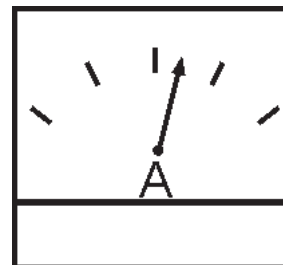

Figure 58. Ammeter (Load)
18. Observe the generator's ammeter (Figure 58) and verify it reads the anticipated amount of current with respect to the load. The ammeter will only display a current reading if a load is in use.